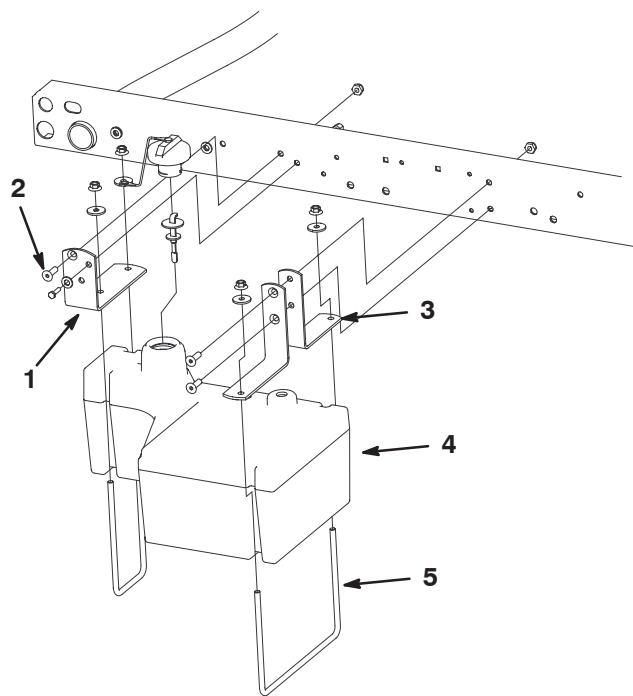

Figure 16
40. Align the rear hydraulic tank bracket holes with the holes in the frame channel (Fig. 16). The front hole in the bracket aligns with the fender mounting hole and the rear (chamfered) hole aligns with the hole to the rear of the fender hole.
41. Mount the rear bracket to the frame channel with the 3/8–16 tapered head screw and 3/8 lock nut (Fig. 16).
44. Align the bottom hole in the rear hydraulic tank bracket with the vehicle frame hole, where the bolt for the right rear fender was removed (Fig. 16).
47. Loosely mount the front tank brackets to the frame channel with (2) 3/8–16 tapered head screws and 3/8 lock nuts (Fig. 16).
48. Mount the tank to the brackets with (2) U-bolts, (4) rubber washers and (4) flange nuts (Fig. 16).
Note: When installing the rear U-bolt, secure the oil cap lanyard to the inside of the U-bolt (Fig. 16).